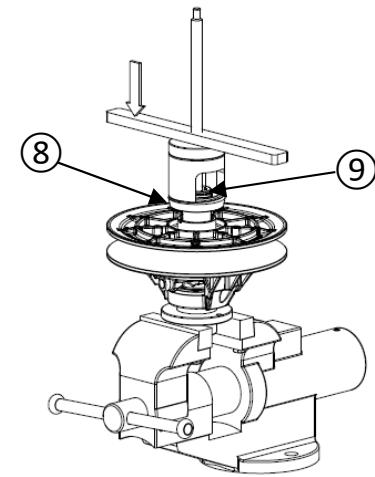
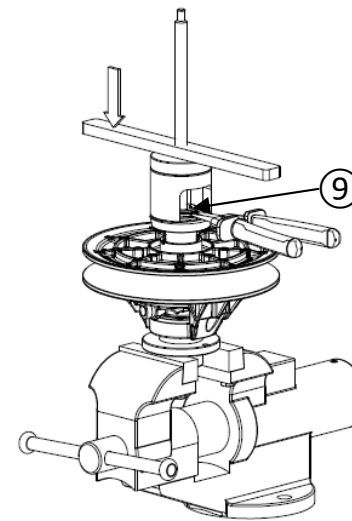

Figure 19
Figure 20
- Install the pulley on the disassembly tool as shown in figure 19.
- By screwing the bar on the threaded rod, press down the spring seat ⑧ (3 to 4 mm max.) in order to free up the retaining ring ⑨.
- Remove the retaining ring ⑨ using the snap ring pliers (figure 20).